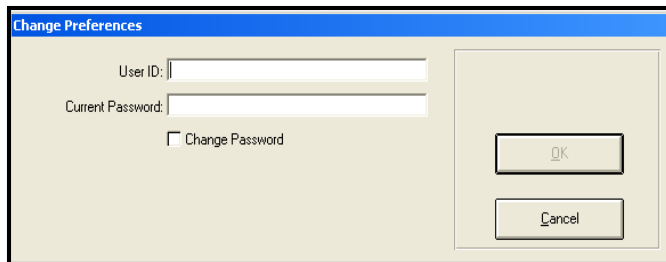

Figure 15: Change Preferences Dialog Box
1. On the Kaye RF ValProbe Main Menu, click the Preferences tab. The **Change Preferences** (Figure 15 below) dialog box appears.